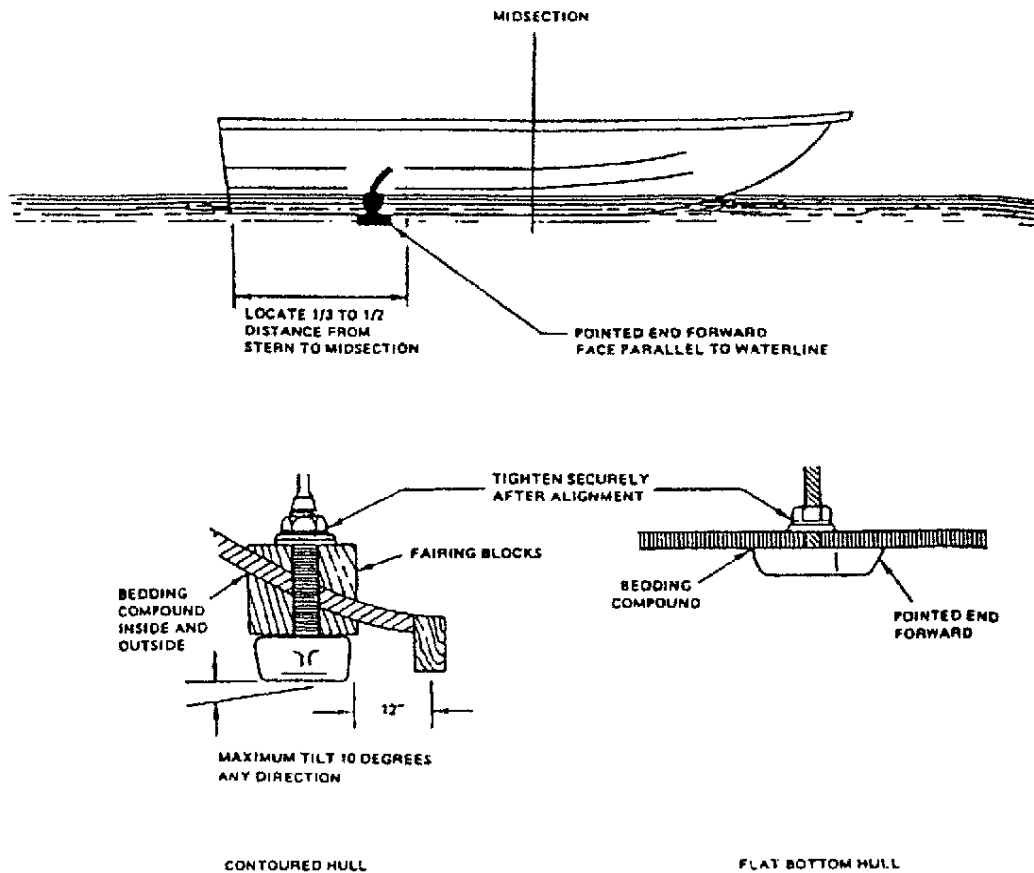

Figure 11. Through-Hull Transducer Mounting
With through-hull installation (Figure 11), use fairing blocks, as required, to ensure that the transducer's face is parallel with the waterline.
2. Mount the transducer, as illustrated in Figure 11, with the pointed end forward.
3. If the hull is not level within 10 degrees in any direction, use fairing blocks (both inside and outside) between the transducer and the hull to ensure that the transducer's face is parallel with the waterline. (Refer to Figure 11.)